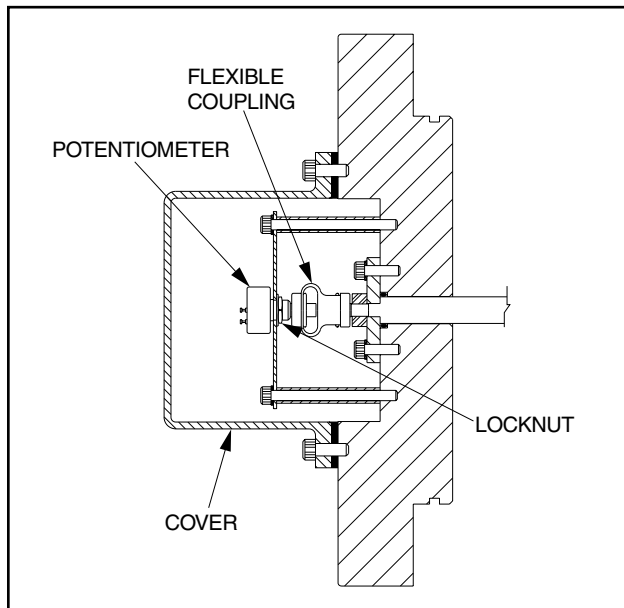

Figure 30 - Potentiometer Adjustment
7. Adjustment (see Figure 30):